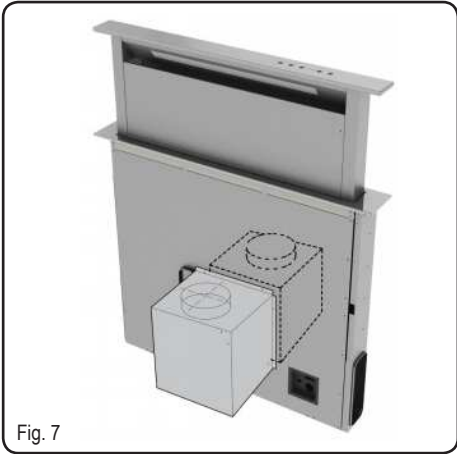

Fig. 7
7. Once the installation is complete and after connecting the appliance to the mains power, lift up the downdraft and remove the door block (Fig. 4); then open the door (Fig. 5) and fit the filters in place (Fig. 6). In the version of the Downdraft equipped with internal motor, install the power unit orienting the air outlet to the desired position, either downwards or upwards (Fig. 7).